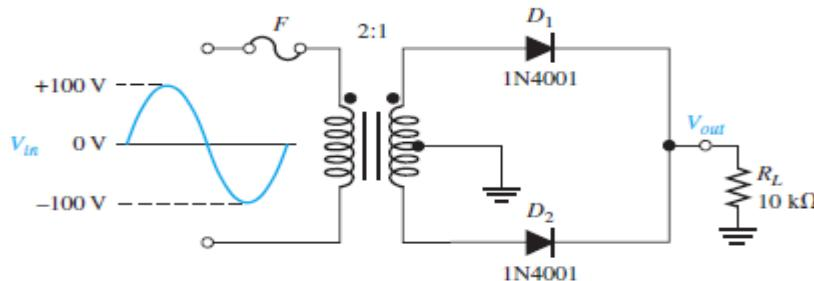

Figure 2–36
- (a) Show the voltage waveforms across each half of the secondary winding and across R_L when a 100 V peak sine wave is applied to the primary winding in Figure 2–36.